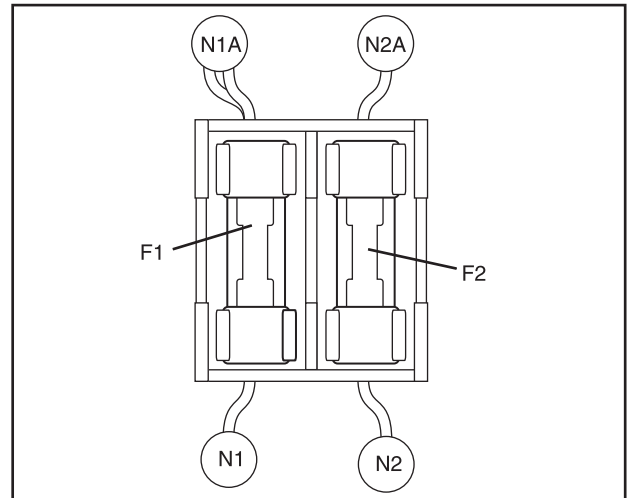

Figure 5. Fuse Holder and Fuses
3. Remove fuses F1 and F2 from the fuse holder (see Figure 5).